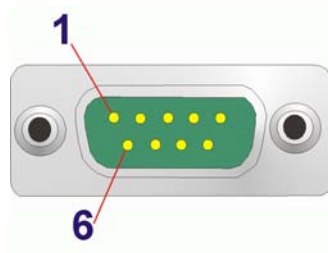

Figure 3-16: COM1 Pinout Locations
- CN Pinouts:** See **Table 3-16** and **Figure 3-16**